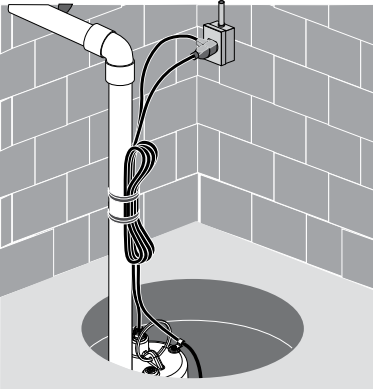

Figure 5
9. **Power Supply:** Pump is designed for 115 V., 60 Hz., operation and requires a minimum 15 amp individual branch circuit. Both pump and switch are supplied with 3-wire cord sets with grounding-type plugs. Switch plug is inserted directly into outlet and pump plug inserts into opposite end of switch plug, as shown in Figure 5.